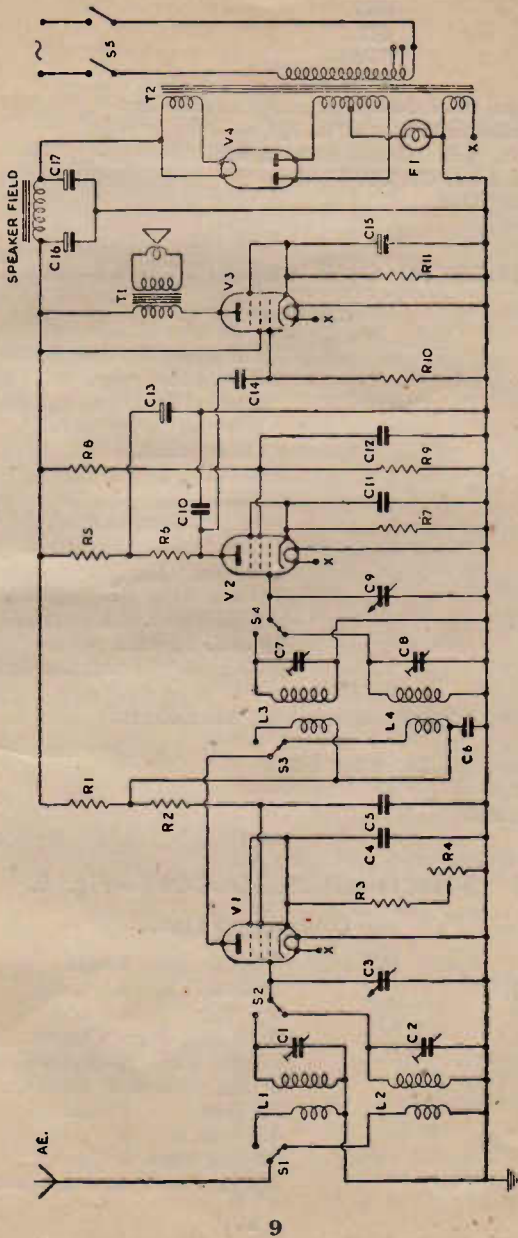

Fig. 4. A.C. T.R.F. Broadcast Receiver.
A.C. T.R.F. BROADCAST RECEIVER—Fig. 4.